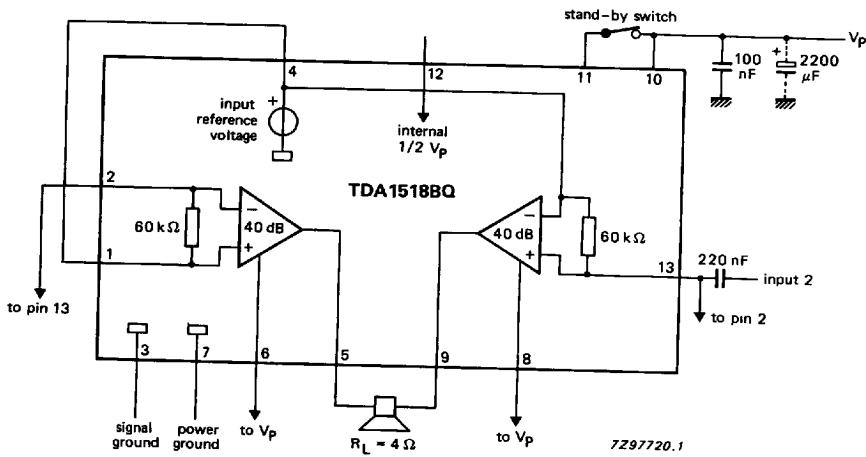

Fig. 4 BTL application circuit diagram (without bootstrapping).
10. All characteristics, for BTL application are measured using the circuit shown in Fig. 4.